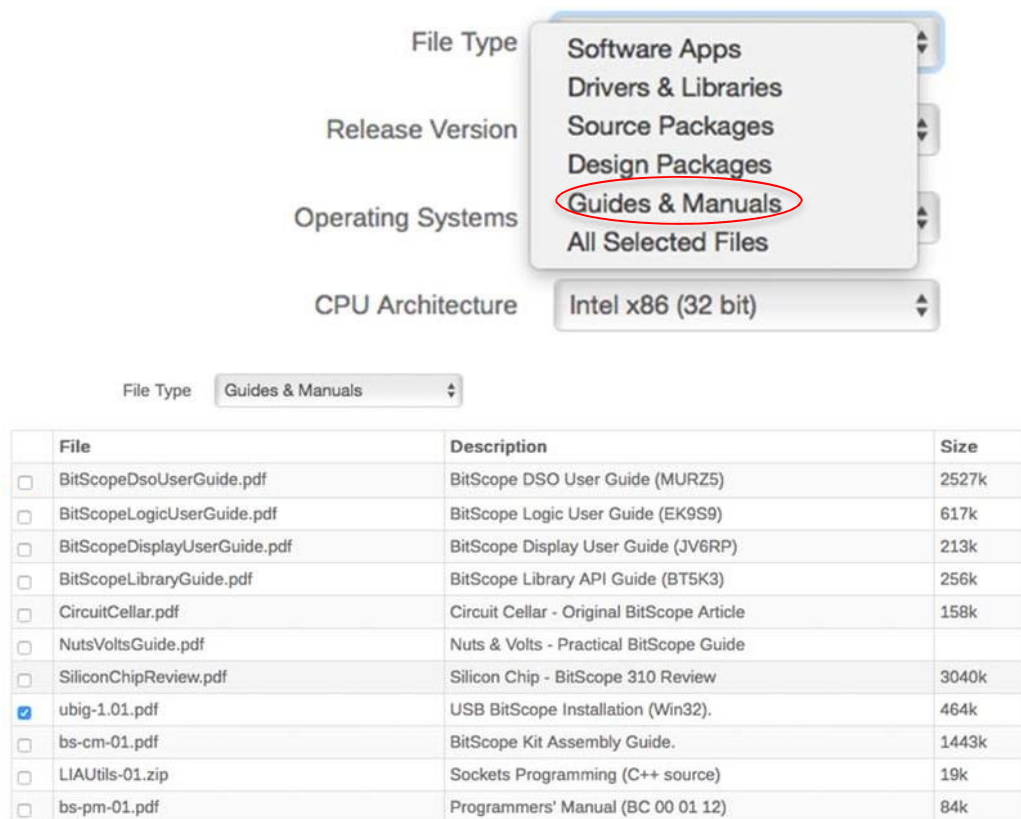

Figure 4. Guides and Manuals available for download.
- Refer to the installation guide – it is available at the BitScope download website. On the selection panel (Figure 2), change the File Type to Guides & Manuals instead and download **ubig** (USB BitScope Installation Guide), shown in Figure 4.